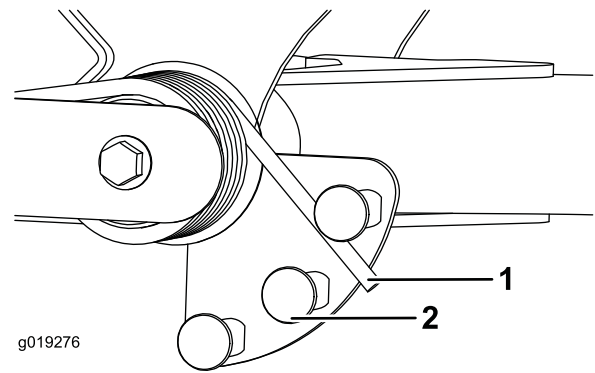

Figure 35
- Insert a tube or similar object onto the long spring end and pivot it around the spring actuator to the desired position (Figure 35).